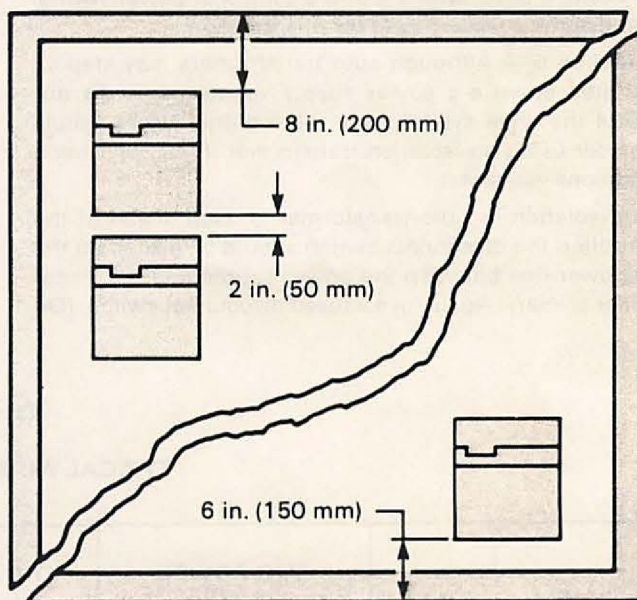

Figure 3.1 — Enclosure Mounting Minimum Distances
**Guideline 2** — It is necessary to leave at least a 2-inch (50 mm) clearance between the top of one controller and the bottom of another controller. This unobstructed area allows for proper air circulation through the heat sink. **Do not** place the controller directly in a corner. Leave at least 8 inches (200 mm) from the top or 6 inches (150 mm) from the bottom of the enclosure. (Refer to Figure 3.1.) Heat builds up at the cabinet's top and may exceed the permissible inside ambient temperature upper limit. At the cabinet's bottom, the unit must be high enough to allow air to flow upwards.